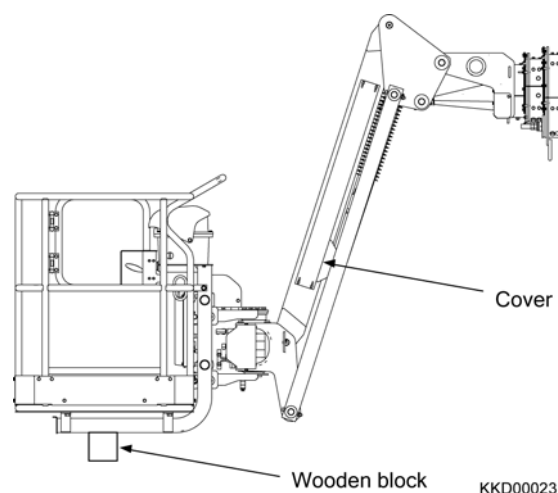

Fig. 2-52
- 3) Take the cover on the right side of the fly-jib off. (Fig. 2-52)
- 6) Install the cover on the right side of the fly jib. (Page. 2-24, Fig. 2-52).